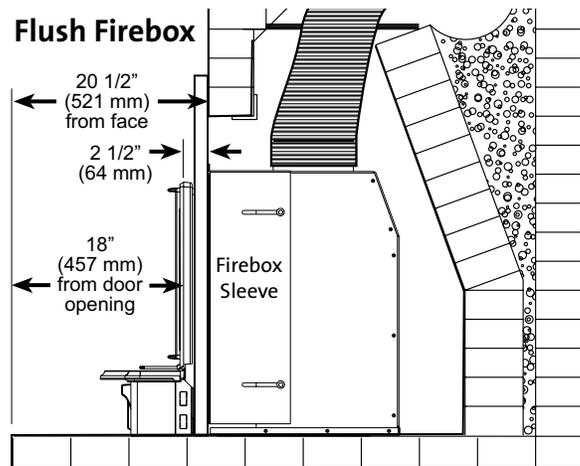

Figure 6. Sleeve adjustment results in minimum firebox extension forward of fireplace face.
- Note that the firebox may extend out forward of the fireplace face depending on where the cabinet sleeve has been set to accommodate flue connection. Always measure hearth protection from the final, installed position of the firebox and the door opening. See figures 6 and 7.